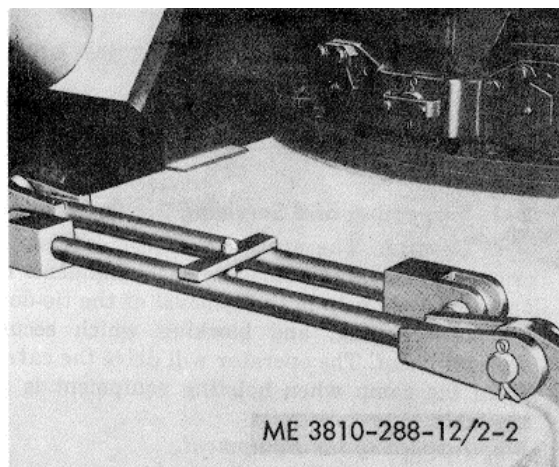

Figure 2-2. Anti-rotation device, stored position
(3) Remove all tape, and wrappings from the engine crankcase breathers, intake and exhaust openings, crane engine torque converter breather, alternator, and clutches and brakes.
(4) Check the tension on the fan and alternator drive belts, and adjust if necessary as described in paragraphs 3-49 and 7-41.
(5) Fill the crane and carrier fuel tanks with gasoline.
(6) Remove the protective material and blocking from the clutches in the crane machinery.
(7) Check the level of the lubricant in the crane gear and chain housing, and add lubricant of the type specified in the LO if necessary. Lubricate the reversing shaft drive chain.
(8) Remove the tape or plugs from the air brake system safety valve and relay emergency valves. Close the reservoir drain cocks.
(9) Make certain that the hydraulic system reservoirs on the crane and carrier are filled with hydraulic fluid to the proper level.
(10) Remove wrappings from all machined surfaces, and clean the surfaces to remove preservative coatings.
(11) Deflate the tires to normal operating pressure. *Note.* If the lubrication order specifies OE 10 for operation, the preservative oil may be used until the first required oil change.
(12) Remove the seals from the crane and carrier battery filler caps. Remove battery material and clean preservative coating from the terminals. Fill the batteries with the separately packed electrolyte; check the specific gravity of the electrolyte, using a hydrometer. Connect the battery cables.
(13) Detach the crane revolving frame anti-rotation devices, and secure them to the carrier frame (fig. 2-2).
(14) Lubricate the entire truck crane in accordance with current LO with the exception of the special instructions in this section.